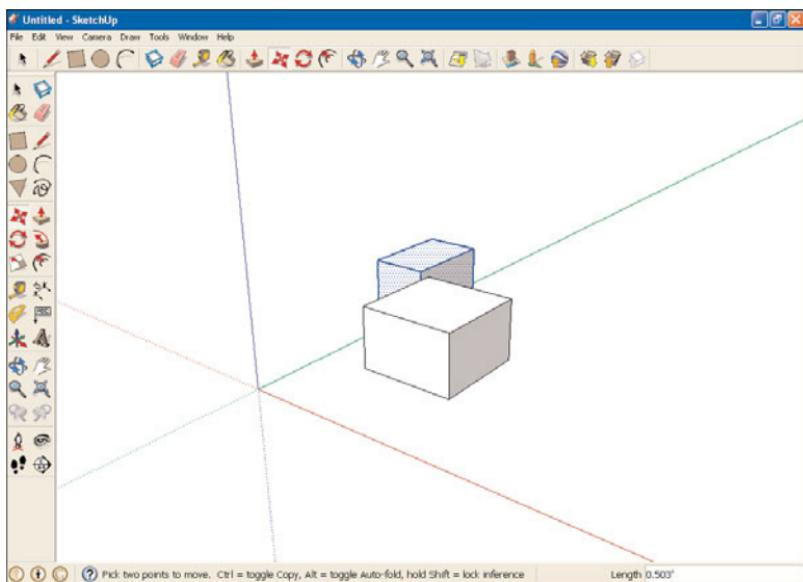

FIGURE 9.1 One cube obscures another.
8. Move the selected cube behind the other cube. You can see what this looks like in Figure 9.1.